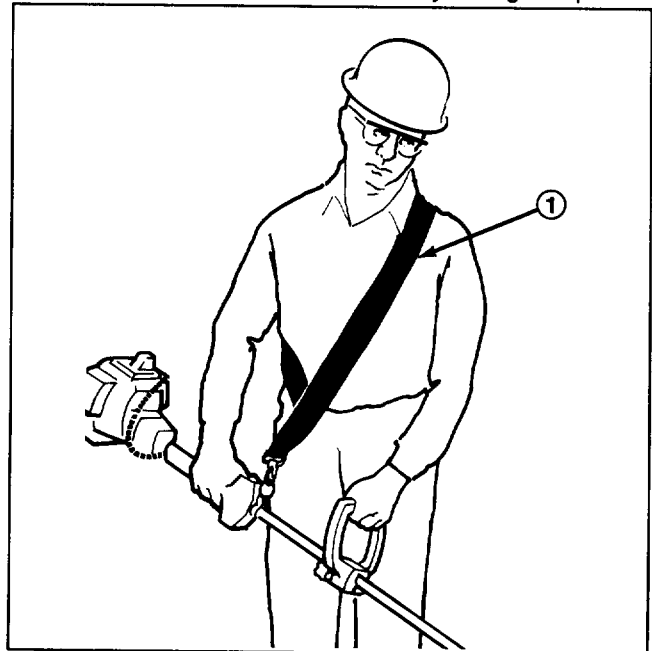

Figure 5
1. Stand on left side of unit, hang harness over left shoulder with harness hook assembly located by right hip (Fig. 5). The double strap loop of the shoulder harness should lie diagonally across chest with harness hook assembly at right hip.